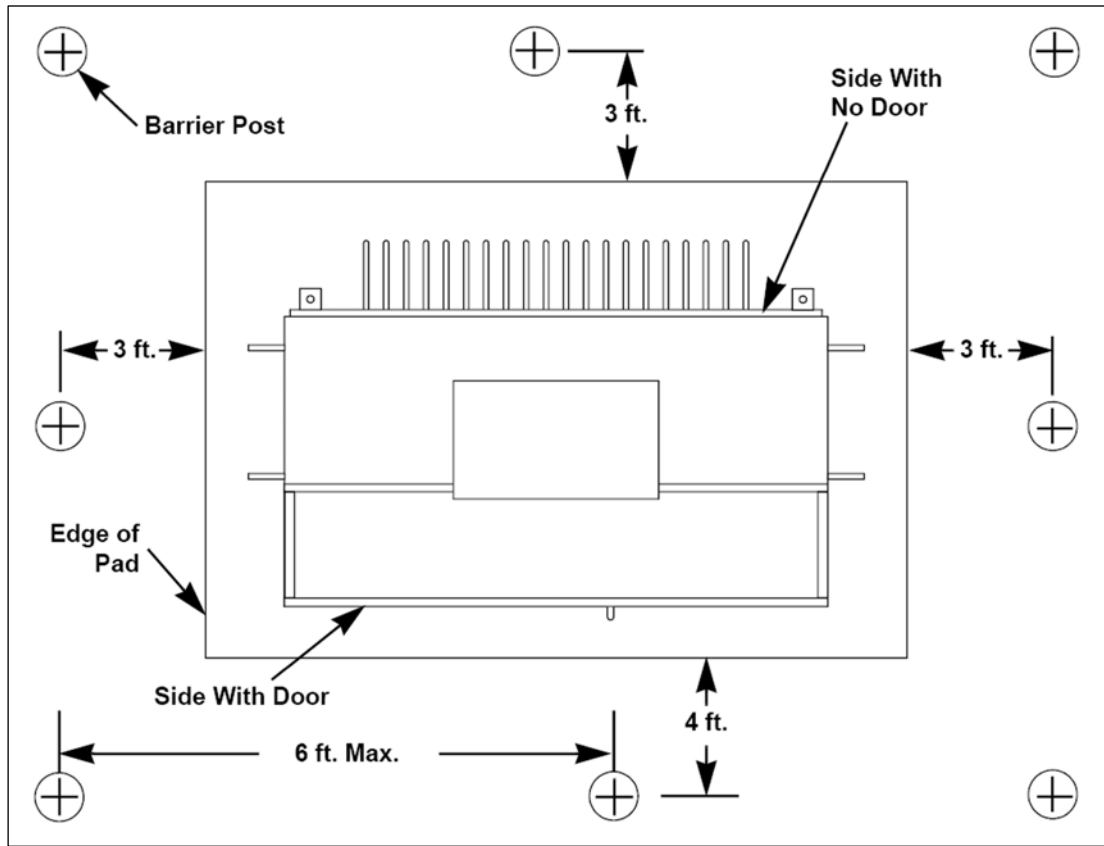
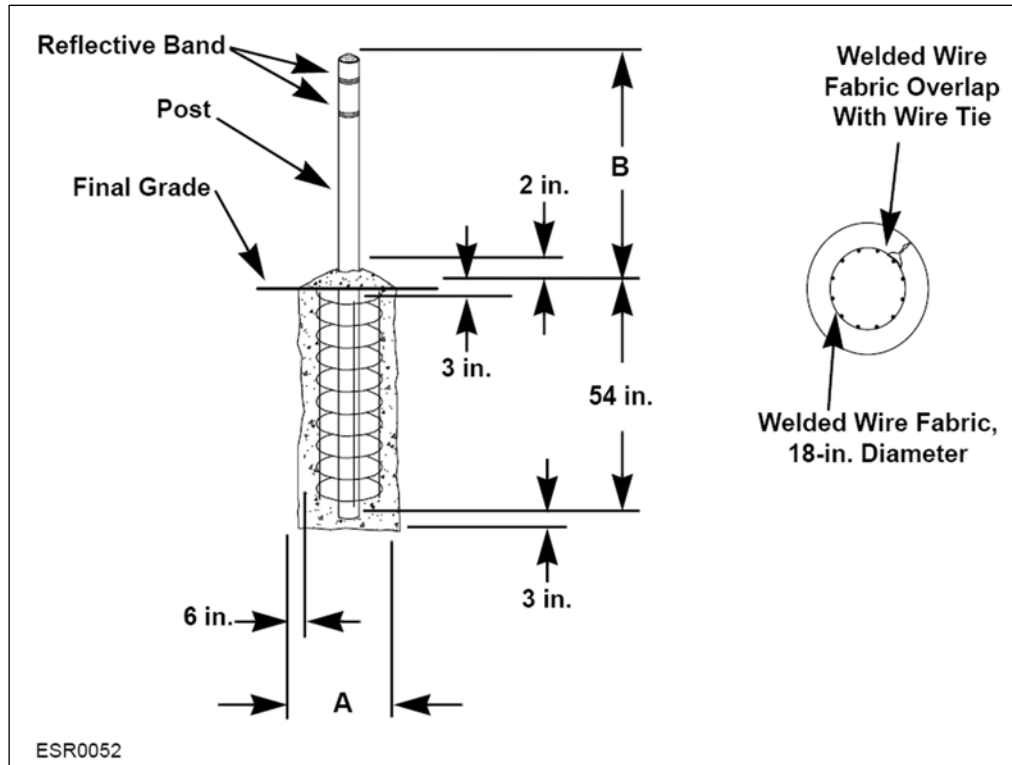

Figure 30: Overhead View of Barrier Post Locations at a Pad-Mounted Installation
Figure 31: Required Dimensions for a Barrier Post
Figure 30 shows barrier post locations for a pad-mounted installation, and **Table 12** lists barrier post dimensions for specific locations. **Figure 31** shows the required dimensions for a barrier post installation.
- **Figure 30** shows an overhead view of typical barrier post locations around electrical equipment.
- When installing a barrier post by a side of a concrete pad or vault that **does not** have a door, locate the post at least 3 feet away from that side. See **Figure 30**.
- Steel reinforcement is required when a barrier post is located at a loading dock. Use 6 x 6 W2.9/2.9 welded wire fabric (WWF), placed around the outside of the galvanized steel post. Overlap the welded wire fabric 6 inches and use a wire tie to secure the fabric. See **Figure 31** for more details.
- Paint all barrier posts safety yellow and apply two 3-inch-wide reflective bands near the top of each post, as shown in **Figure 31**.
In the table below, dimensions A and B apply to **Figure 31**.